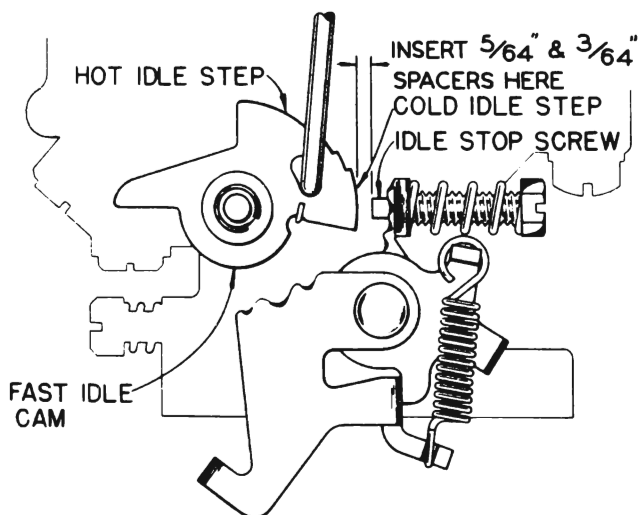

Figure 10-47—Spacer Between Idle Stop Screw and Fast Idle Cam
4. Place $\frac{5}{64}$ " spacer between idle stop screw and fast idle cam while holding fast idle cam in extreme cold idle position. Close throttle so that spacer will hold cam in this position. See figure 10-47. Turn ignition on, hold spacer and open throttle. Engine should *not* crank.
5. Still holding throttle open, place $\frac{3}{64}$ " spacer between idle stop screw and fast idle cam while holding fast idle cam in extreme cold idle position. Close throttle so that spacer will hold cam in this position (fig. 10-47) and again open throttle with ignition on. Engine *should* crank.